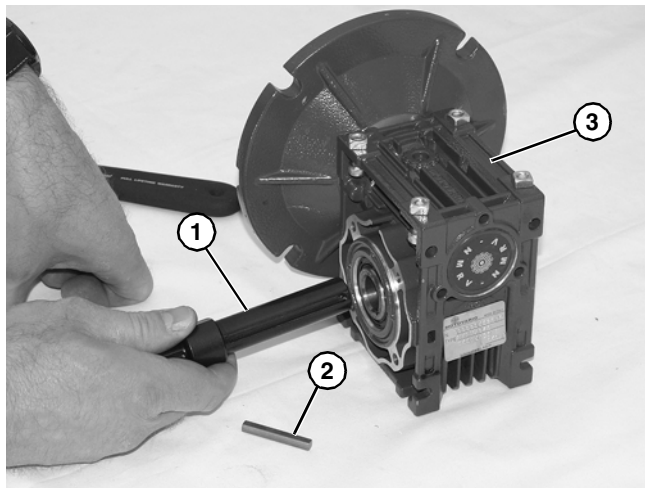

Figure 32
3. Remove driveshaft (**Figure 32, item 1**) and key (**Figure 32, item 2**).
4. Replace gear reducer (**Figure 32, item 3**).
6. Replace the original shaft components into new gear reducer (see **Figure 32**).